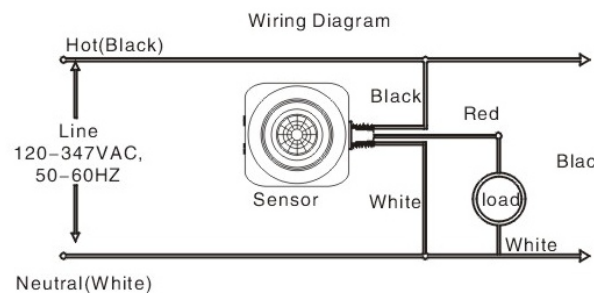

Fig 3B
- 3.Connect wire per Wiring Diagram as follows: BLACK lead to LINE(HOT);RED lead to LOAD; WHITE lead to NEUTRAL. Twist the existing wires together with the wire leads on YM2501A sensor as indicated below. Cap them securely using the wire nuts provided.(refer to Fig.3B)
5. Feed the sensor wires through the keyed nipple attached to the luminaire or electrical box and connect wires per Wiring Diagram as follows: Twist the existing wires together with the wire leads on YM2501A sensor as indicated above. Cap them securely using the wire nuts provided. (refer to Fig.3B)